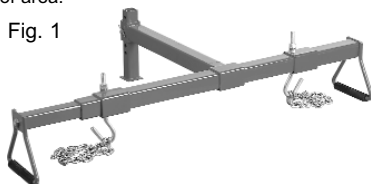

Fig. 1
- 3.2. Slide the two moveable beams (7) into position as required. Note: The moveable beams (7) can be fitted either side of the moveable beam assembly (11), as shown in fig.1. or one can be fitted to the moveable beam assembly (11).